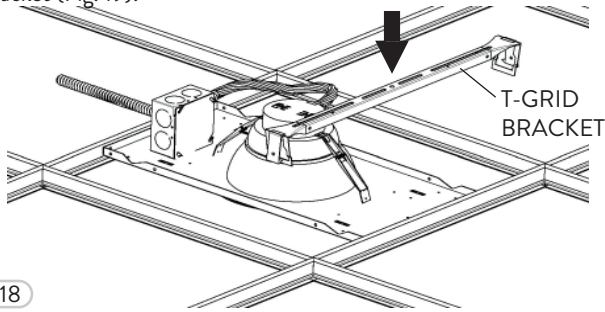
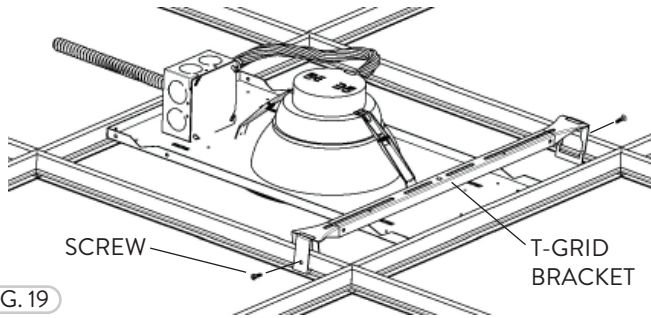

FIG. 18
FIG. 19
① The Optional T-Grid Bracket for the Emergency Driver is for all the FDLA models. Place the T-Grid Bracket at the desired location by pressing onto the T-Grids and the flexible ends will 'bite' onto the Top of the T-Grids (Fig. 18). Insert Screws on each side of the T-Grid Bracket (Fig. 19).